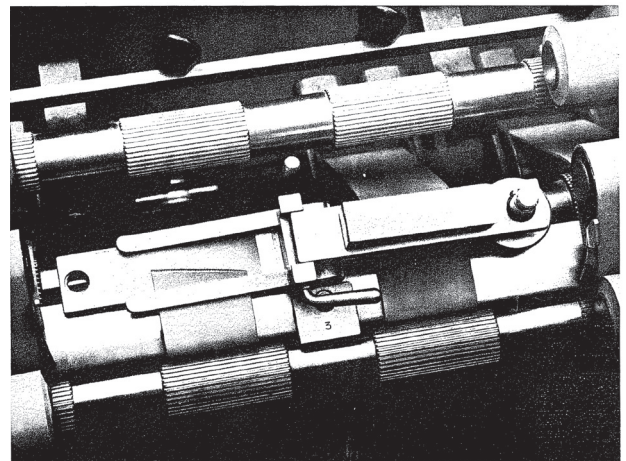

Fig. 5
4. Pass the free end of the apron round the apron drive roller, insert the press, adjust, and retain with lever E_2 (Fig. 5).
5. Swing down the pressure plate G and turn the locking screw D to the stop. Leave under pressure for about 2 minutes (Fig. 5).